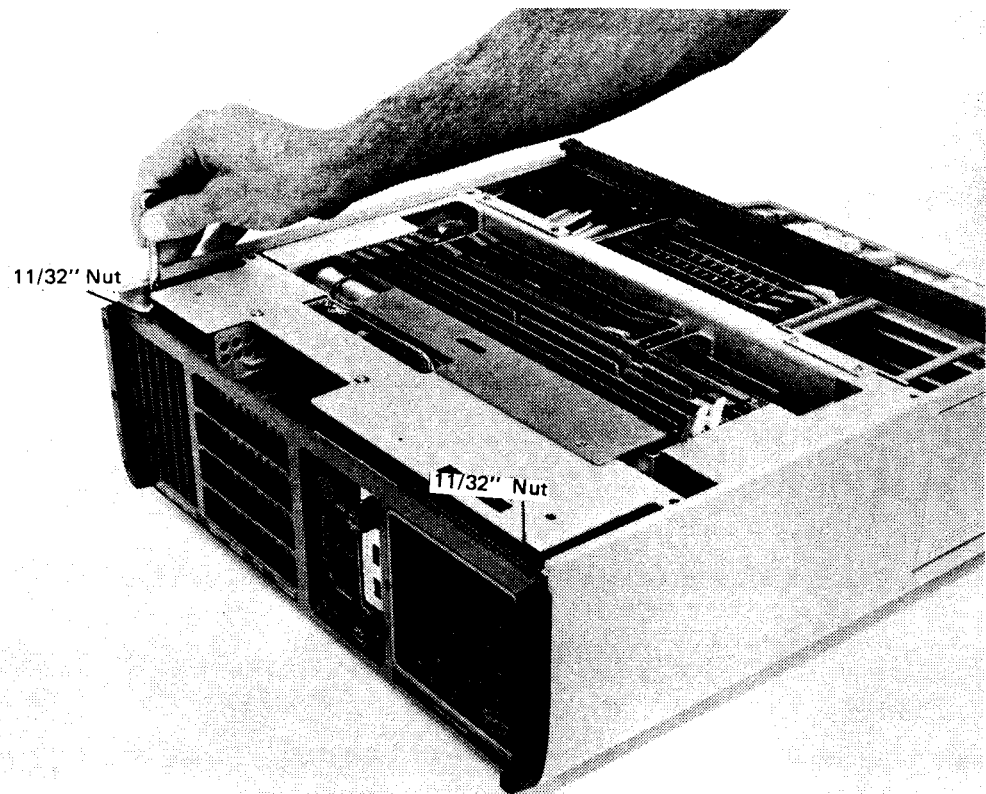
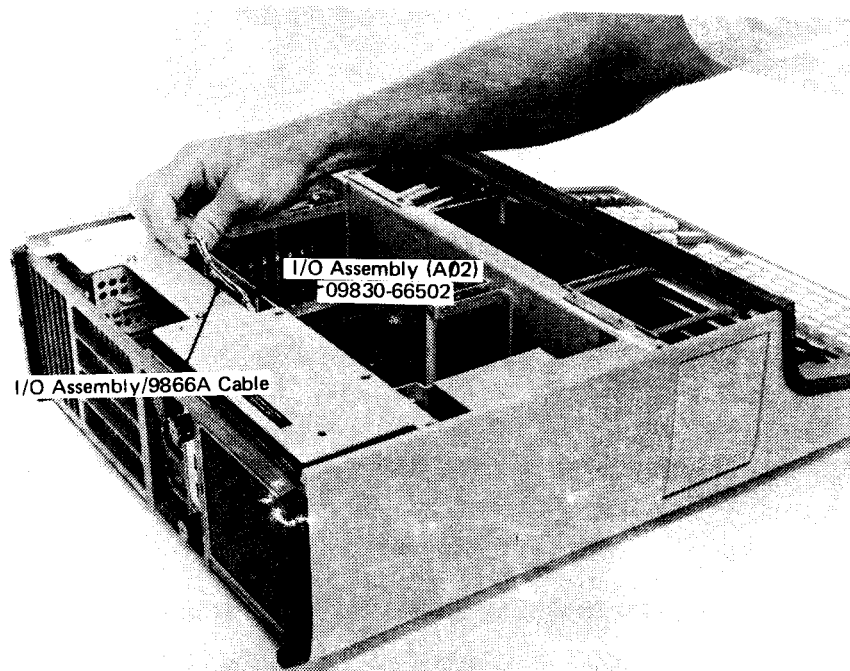

Figure 6-9. Removing the Rear Panel.
Figure 6-10. Removing the I/O Assembly.
6. The rear panel components may be accessed by laying the calculator on it's top and removing the three screws (in the bottom). Then place the calculator upright and loosen the two 11/32" nuts which hold the top of the rear panel to the chassis. DO NOT REMOVE THE TWO 11/32" NUTS. Next, remove the I/O Assembly (See Figure 6-10). Pull the rear panel free of the calculator chassis (See Figure 6-9).